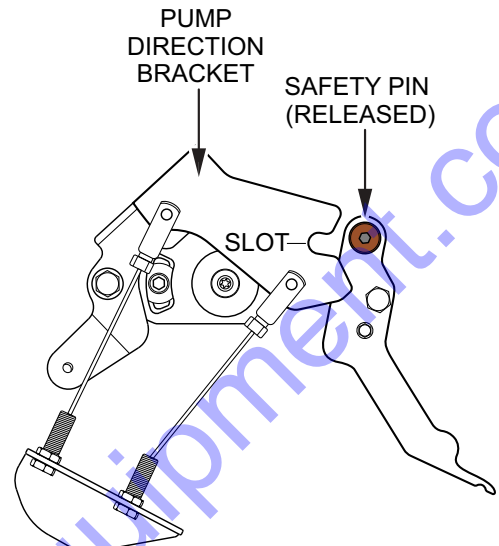

Figure 43. Safety Pin Released
3. Verify that the safety pin (Figure 43) has been released from the **pump direction bracket slot**.
2. Verify that the safety pin (Figure 43) has cleared the pump direction bracket slot.